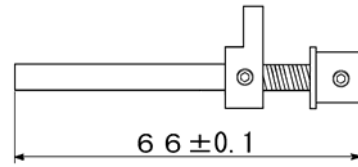

Figure 7-12
- f) Adjust the total length of the assembly to 66 ± 0.1 mm, and tighten the lock screw on the Control Knob. (Figure 7-12)